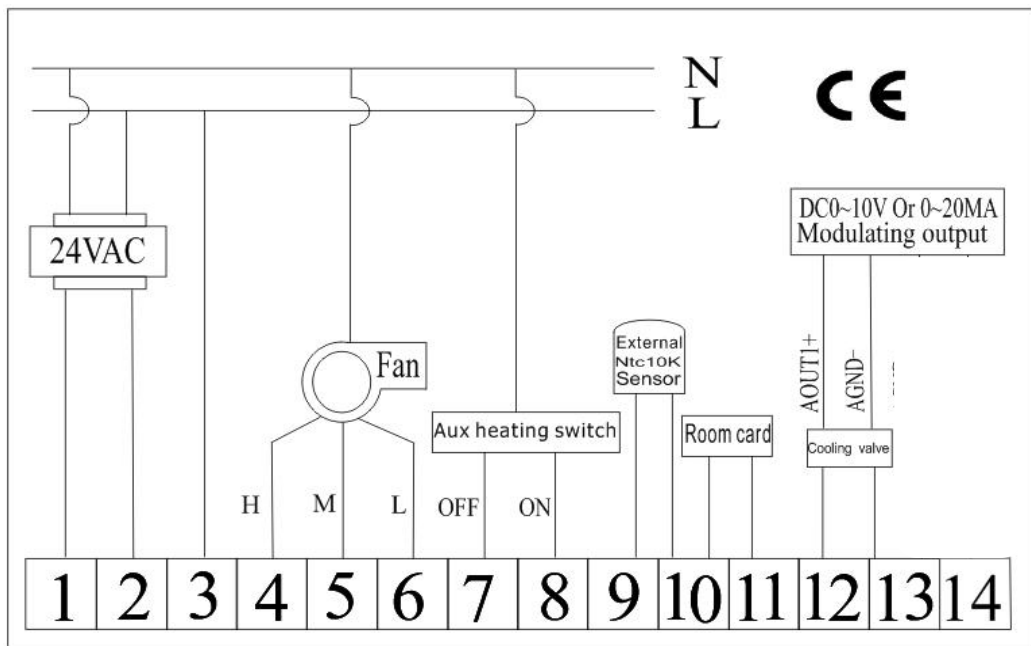

Figure 4
2. Connect wires beneath terminal screws on power supply module using appropriate wiring schematic. See figure 4
5. Replace control panel on the power base and fix power base and control panel by removed two screws in item 1
‘h1: Only proportional output for heating control is available, terminal 12 and 14 (See Figure 4) is used as 0-10V or 0-20mA modulating output to control heating or cooling
‘h2: 2 stage heating active. Terminal 12 and 14 (See Figure 4) is used as 0-10V or 0-20mA modulating output to control 1st stage heating. Terminal 7 and 8 (Figure 4) is the On/Off output to
‘h3: Only On/Off output for heating control is available. Terminal 7 and 8 (Figure 4) is the On/Off output to control heating.